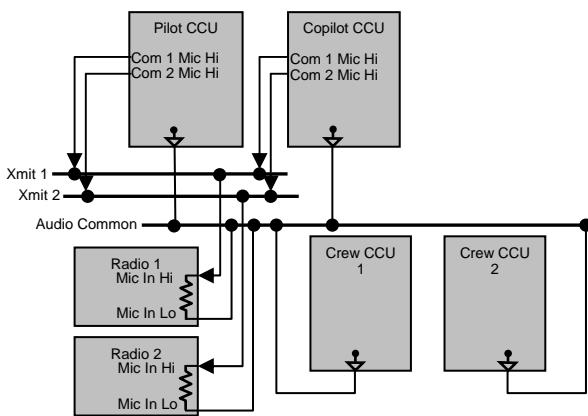
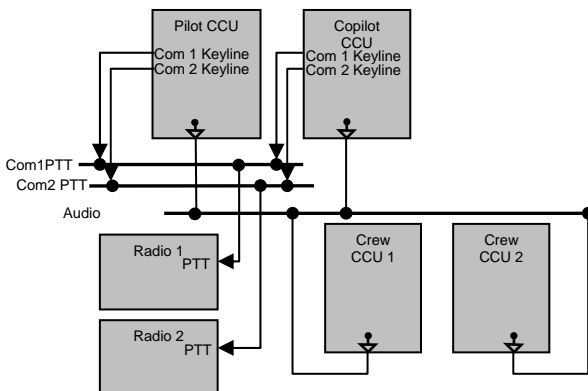

Figure 3 – Transmitter Audio
Figure 4 – Transmitter Control
3. Transmitter Audio – In order to transmit using an aircraft radio, the CCU must connect audio (Fig. 3) and a transmit control signal (Fig. 4).
Each aircraft installation's wiring will determine which CCU stations can transmit. Figures 3 and 4 shows an installation where only the pilot and copilot stations are wired for transmitter audio and control. If the radio transmit audio input has a built-in termination resistor (as shown in figure 3) you will not need to add one externally. Most radio transmitter PTT (Push-To-Talk) inputs are active low, so a “wire-OR” configuration allows any connected CCU to activate transmit when it pulls the PTT line low.